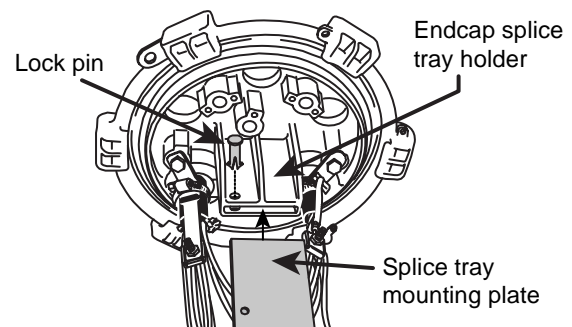

Figure 14
1. Insert the splice tray mounting plate into the endcap splice tray holder and lock in position with the pin provided (Figure 14).